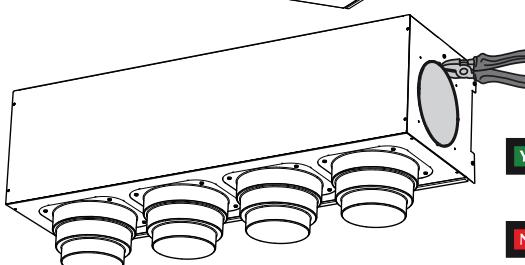

Fig.14
- Remove the circular flange closing disk, cutting into the front of it (from the inside) with a cutting tool. The plastic on the corners of the circular flange is thinner to ease cutting (fig.14)
- Use a cutting tool to cut the internal insulation from the outside along the circumference and remove it (fig.14)